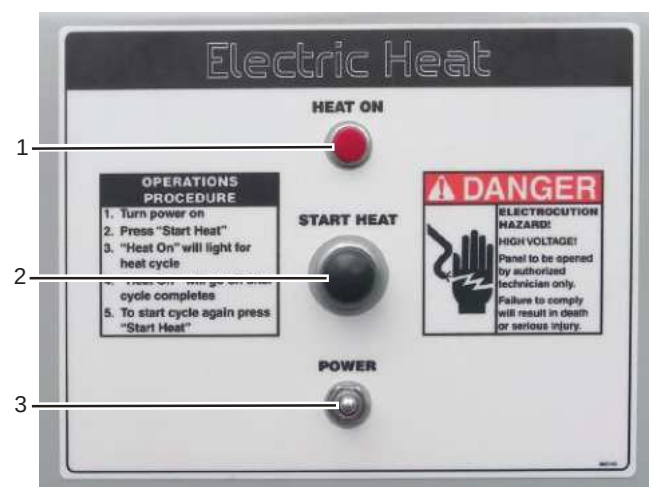

Figure 4-36. Electric Heat Control Box
The LeeBoy 8510D Conveyor Paver offers an optional Electric Heat system to heat the screed, including the screed extensions, in lieu of the propane burner system. A hydraulically-driven generator powers the electric heat control box mounted in the center on the rear side of the machine. This control box is where you will select the heating function before you begin to pave. (**Figure 4-36**)
3. Turn the electric heat control box power ON by flipping the power switch up. **(Figure 4-36)**